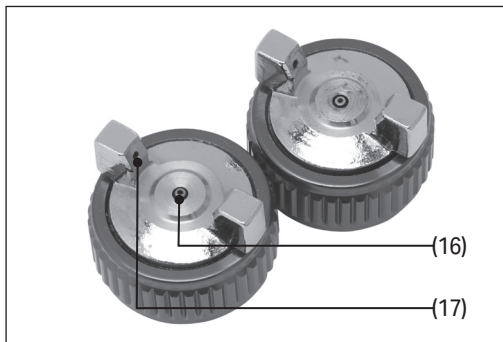

Fig. 13
The air cap (1) has two types of opening that affect the pattern of the fluid spray (Fig. 13):
- A hole for the nozzle head from which the fluid is dispersed (16).
- Air horn holes (17) that shape the spray pattern as required.